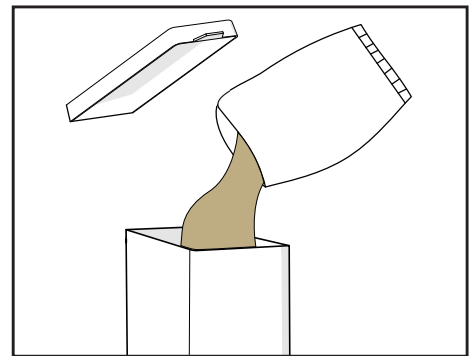

Figure 56.
4. Remove the lid from the canister. Fill the canister to a maximum of three-quarters of its capacity (see Figure 56).